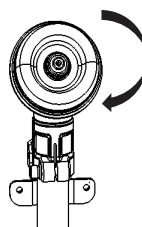

Fig. 7
1. Disassemble the nut(clockwise), spool retainer, and support plate from gear case (Fig.7&8).